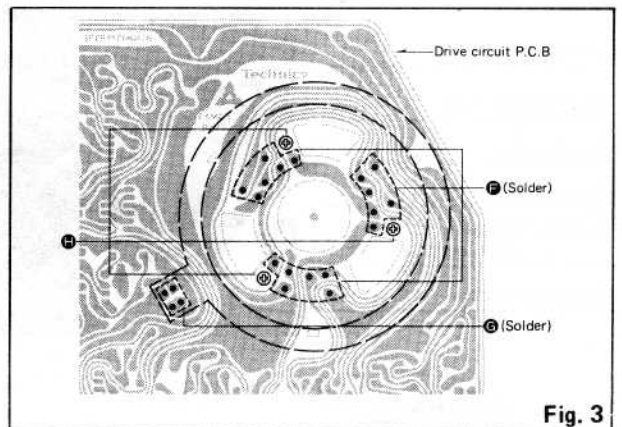

Fig. 3
6. Disconnect 18 soldered parts **F** of the stator coil and 4 soldered parts **G** of the F.G detector coil as show in Fig. 3.
7. Remove 3 screws **H** of the stator frame ass'y as shown in Fig. 3.